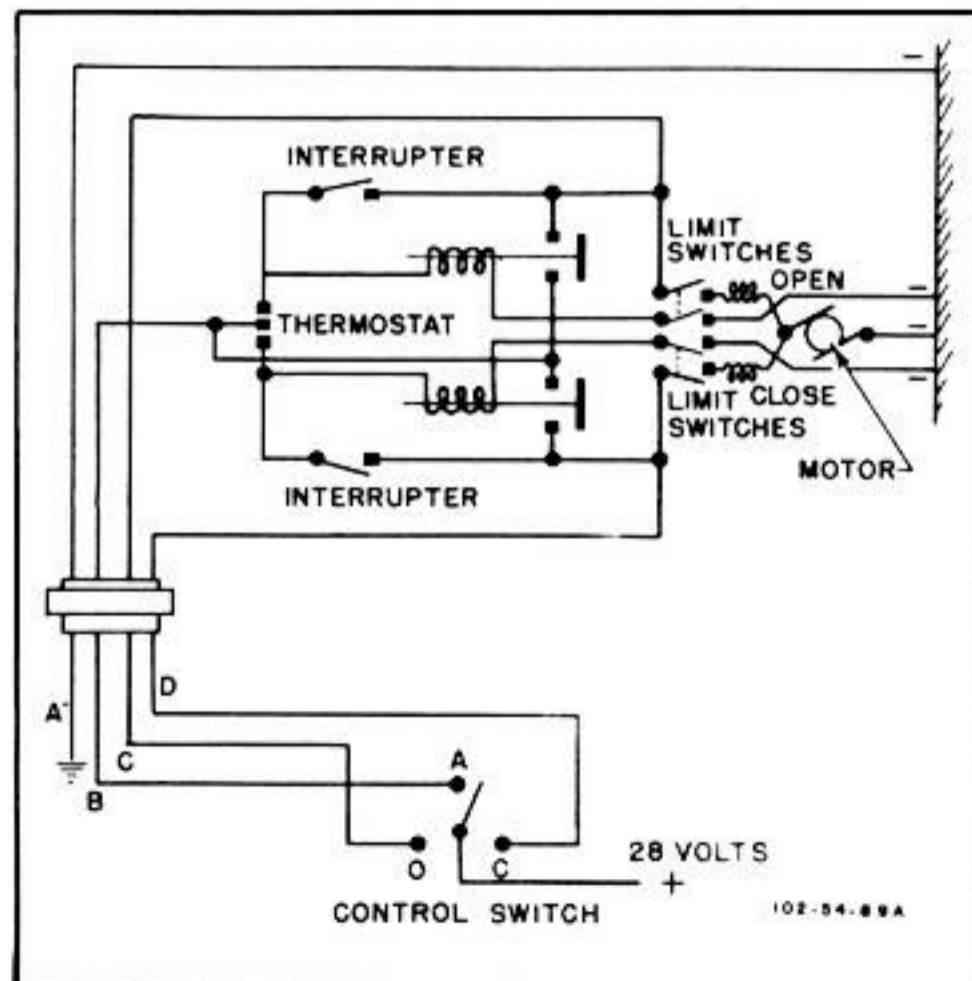

Figure 346—Internal Wiring of Radiator Air Outlet Flap Actuator
(1) DESCRIPTION.—The outlet flaps operate entirely electrically through two automatic temperature-controlled actuators, a Type R-4310 for the oil and a Type R-4250 for the coolant flap. (See figure 347.) Each actuator has a thermostat and capillary bulb, two relay switches, a reversible motor, four limit switches, and two interrupter switches. See figure 346 for internal wiring of the actuator. The capillary-controlled thermostat governs the opening or closing of the scoop by controlling the rotation of the electric motor, which in turn operates a screw jack attached to the flap. In case of thermostat failure, manual operation switches on the scoop or left switch panel may be placed in either the "OPEN" or "CLOSED" position; the scoops are stopped in any position when switch is placed in the "OFF" position.
(2) REMOVING COOLANT RADIATOR AIR OUTLET FLAP ACTUATOR.